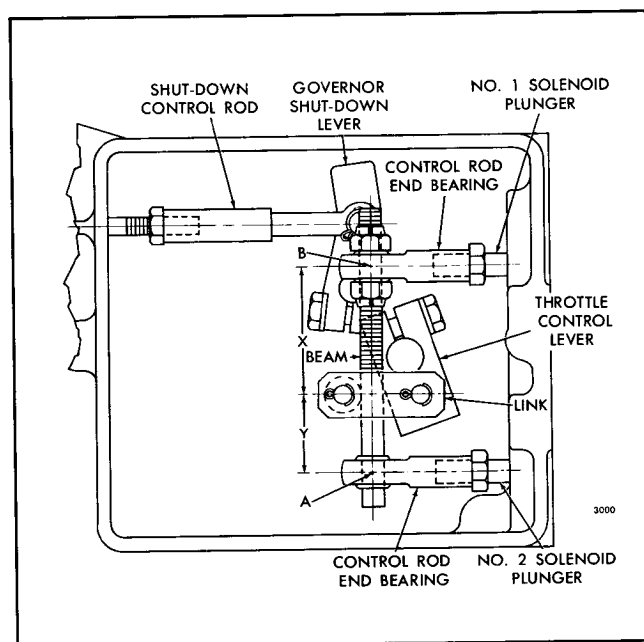

Fig. 6 - Throttle Control Linkage Adjustment Diagram
- a. Note the engine idle speed. If the speed is above 850 rpm, turn the throttle control operating solenoid plungers into the rod end bearings (refer to Fig. 6). If the speed is below 840 rpm, adjust the speed as outlined under "Adjust Idle Speed".
about point "A" as a fulcrum (see Fig. 6) until a speed of 1050 ± 10 rpm is obtained. To increase the speed, decrease the angle of the beam; to decrease the speed, increase the beam angle. Slight adjustments in the speed may be made by adjusting the beam upward to increase the speed, or downward to decrease the speed.